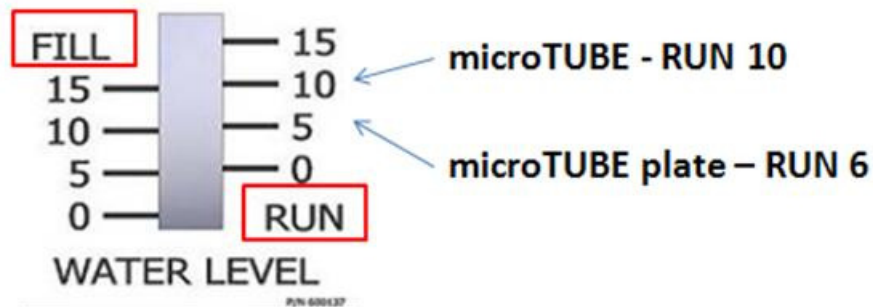

Figure 5: Water level indicator with stage at shearing “check alignment” position.
1.10.2. For microTUBE plates, adjust water level to 6 RUN or 12 FILL See Figure 5.